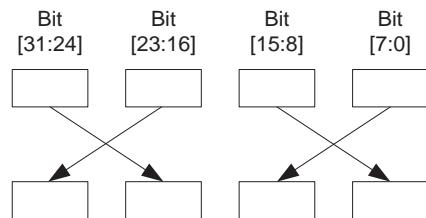

Figure 5.10
- REV16 (Byte Reverse Packed Half Word, Figure 5.10), and